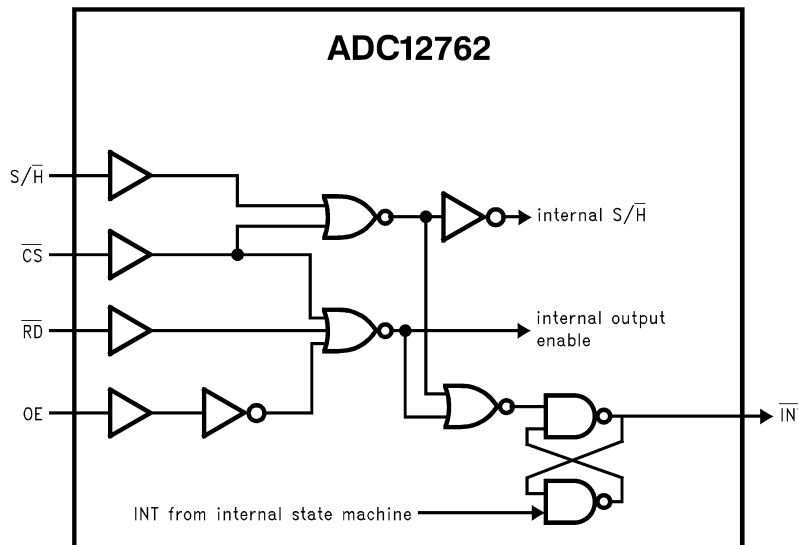

Figure 27. ADC Control Logic
- OE** This is the active high Output Enable control input. This pin can be thought of as an inverted version of the \overline{RD} input (see Figure 27). Data output pins DB0–DB11 are TRI-STATE when OE is low. Data appears on DB0–DB11 only when OE is high and \overline{CS} and \overline{RD} are both low. This pin can be tied high.
In order to clearly show the relationship between $\overline{S/H}$, \overline{CS} , \overline{RD} , and OE, the control logic decoding section of the ADC12762 is shown in Figure 27.